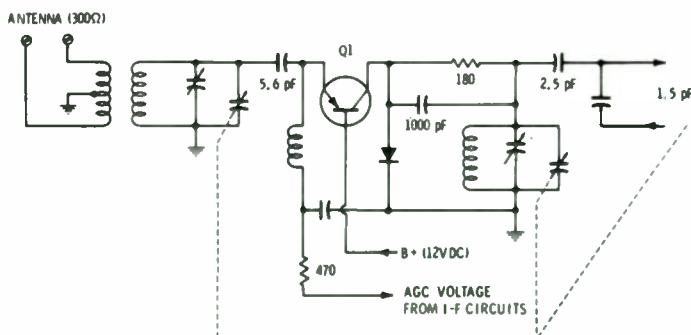

Figure 3 — Typical FM RF stage employing an ordinary bipolar PNP transistor.
With all of the preceding requirements in mind, let us examine a typical early RF stage attempting to use high-frequency germanium transistors for an RF amplifying circuit. The circuit is shown schematically in Figure 3. The first big problem here is that, in the common-base configuration, input impedance of a bipolar germanium transistor is quite low. If the input is pretuned with a parallel tank circuit, one of two detrimental things will happen: (1) If we just place the tank circuit across the
To make matters worse, AGC, while present in the circuit of Fig. 3, is limited in its action by the gain-changing characteristics of the typical bipolar transistor. These devices are limited in dynamic range and, therefore, could be subjected to overload even in the presence of carefully worked out schemes.